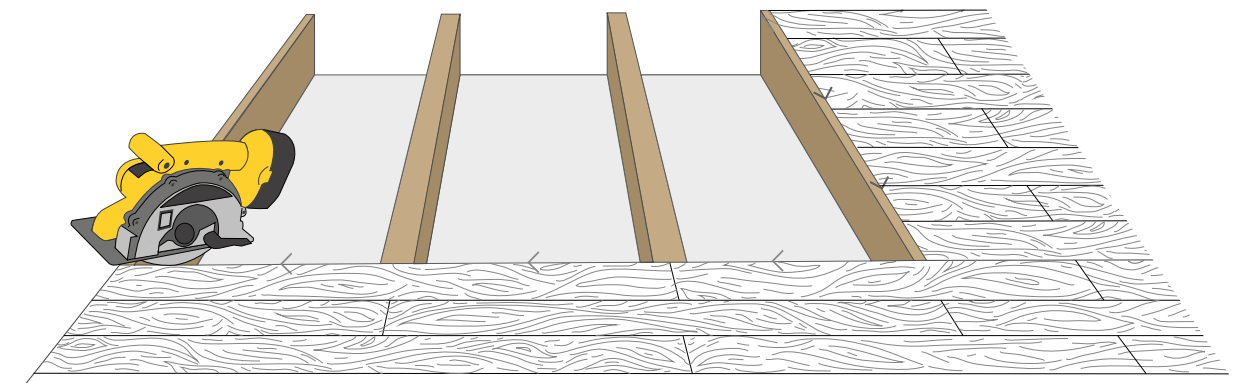

Fig. 7
1. Set your circular saw to the depth of your floorboards - most standard floorboards are 18mm (Fig. 7).